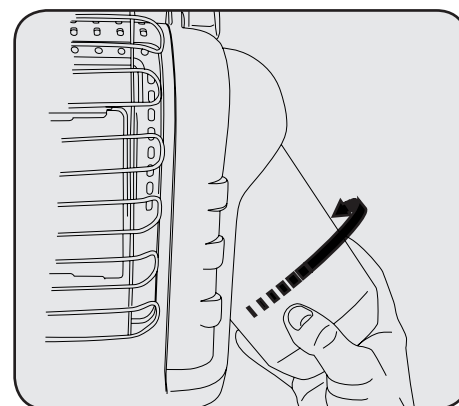

Figure 2
2. Open the right side door, swivel regulator outward for easy tank installation. Screw 1 lb. disposable LP-gas supply cylinder clockwise (from bottom) into portable heater until hand-tight. See Figure 2. Do not use thread sealant on this connection.